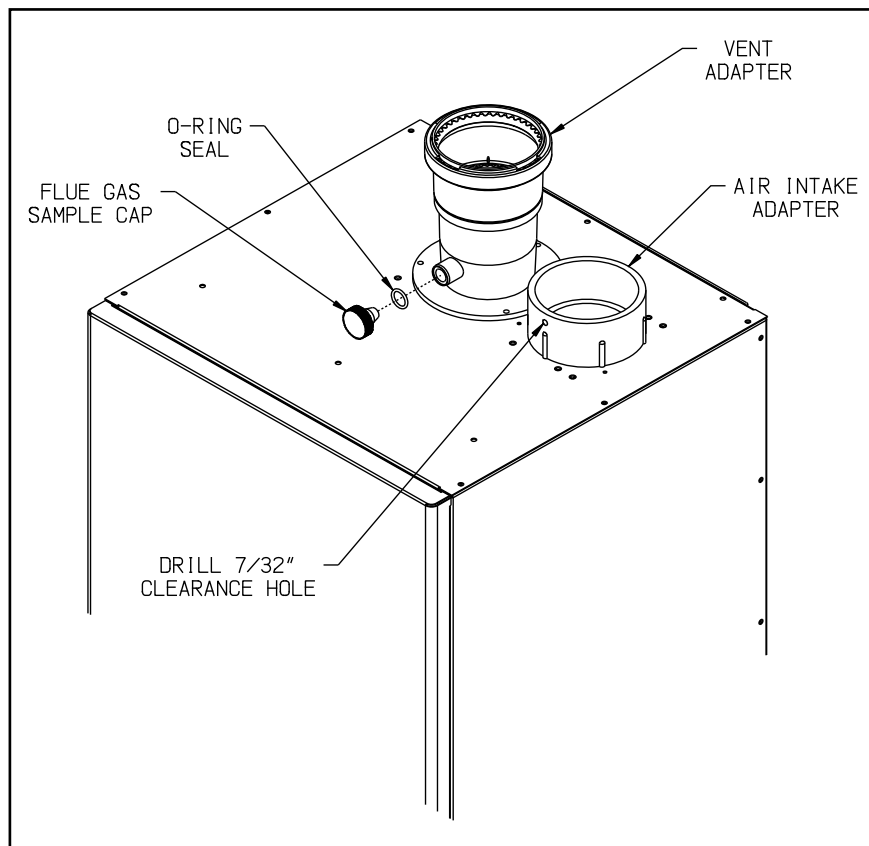

Figure 7.27: Vent Connections and Flue Gas Sample Cap Location
Never leave the boiler in operation without the gas sample cap in place (Figure 7.27).
- a. The vent adaptor has two different inside diameters. The smaller, lower, inside diameter accepts 3" nominal PolyPro (Figure 7.27). A locking ring in the adaptor prevents the vent pipe from coming out of the adaptor once it is inserted. Lubricate the upper gasket in the vent adaptor with soapy water and insert the first piece of 3" PolyPro into the adaptor until it bottoms out.